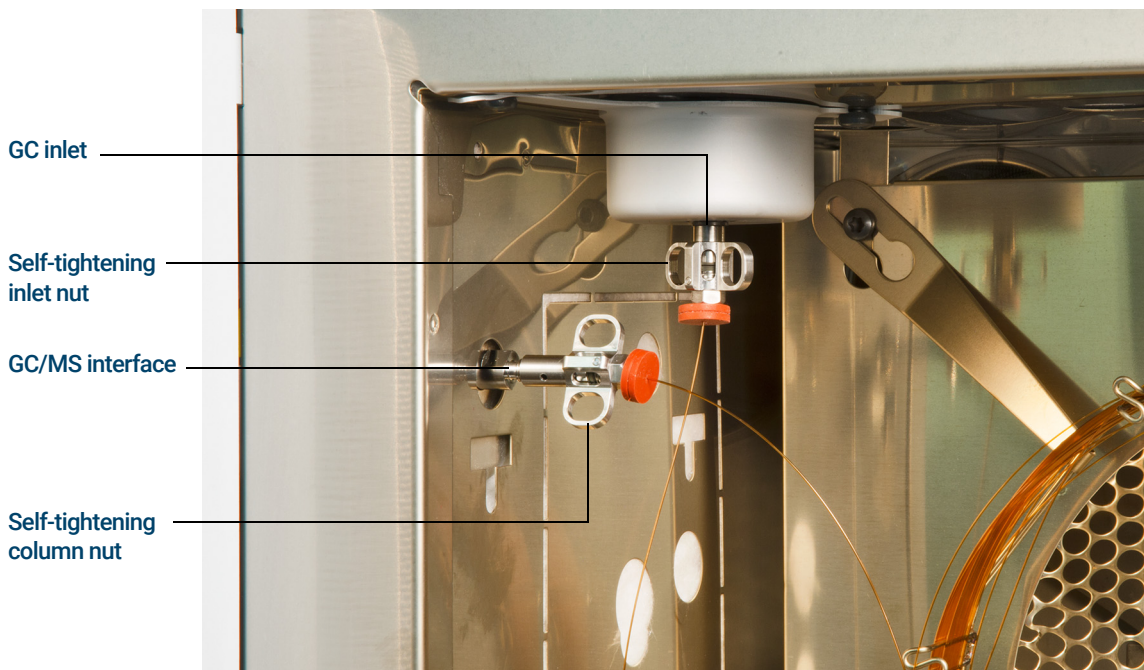

Figure 22. Installing a capillary column in the GC/MS interface
- 11 Hand-tighten the nut. (See Figure 22.) Ensure the position of the column does not change as you tighten the nut.